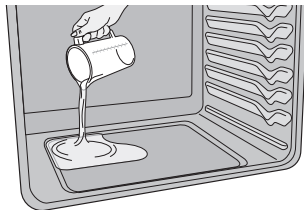

Figure 23: Add 1 cup of tap water
3. Pour 1 cup of tap water onto the oven bottom. (Figure 23) Close oven door.